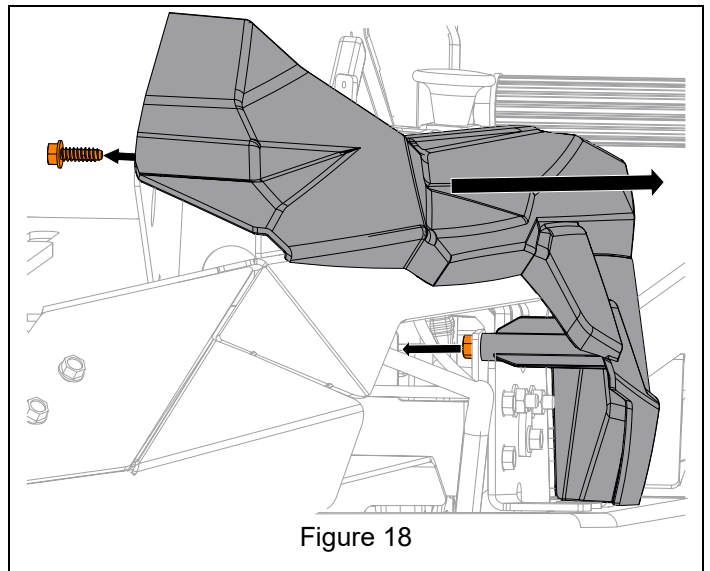

Figure 18
See Figure 18.
3. Remove two tapping screws from back of right fender and remove fender. See Figure 18.
1. Reinstall fender and secure with tapping screws. See Figure 18.